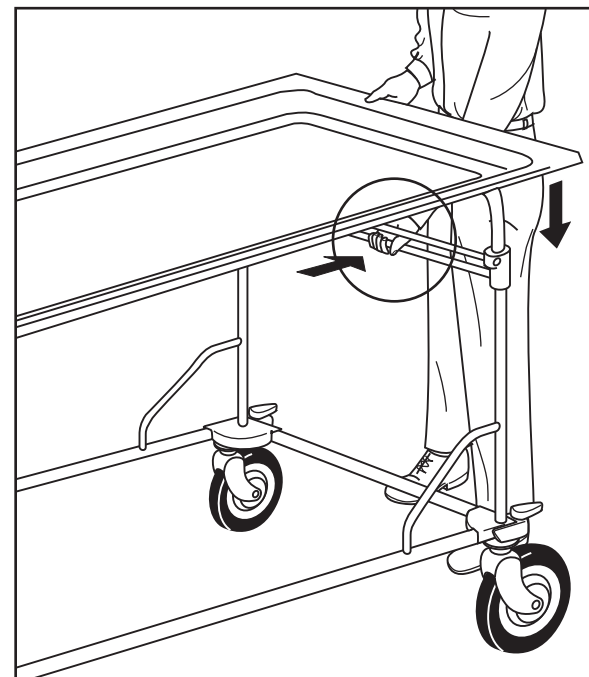

Figure 8 - Grasp the Center of the Ratchet Control Bar When Lowering the Table Top
3. Placing your other hand **in the center of the ratchet control bar** (Figure 8), pull and hold the ratchet control bar to disengage the lock, then lower the table top until it is almost the desired height.